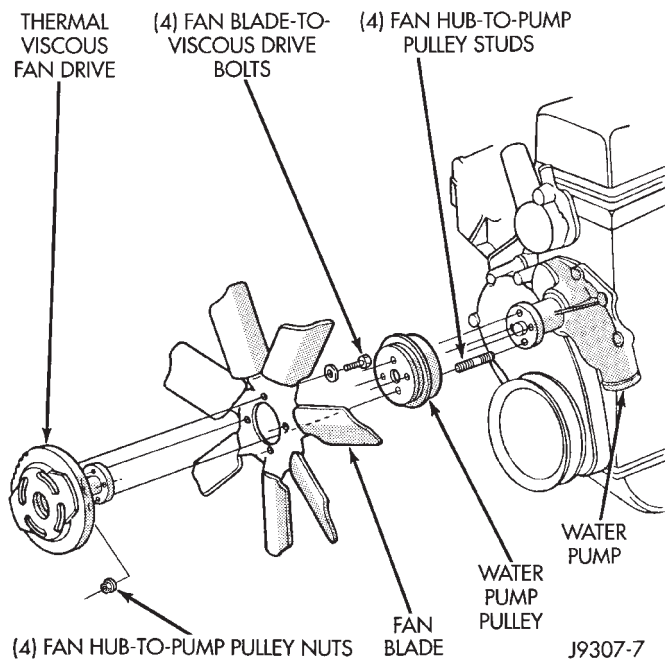
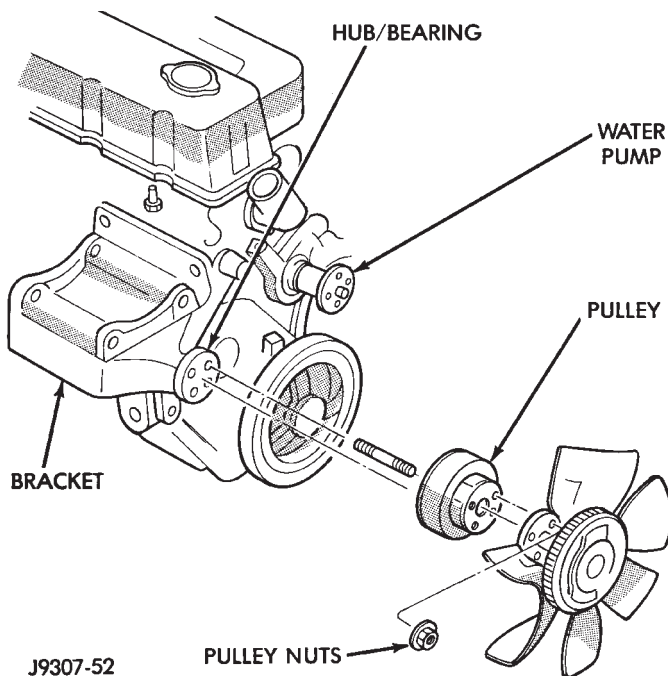

Fig. 38 Water Pump Mounted Cooling Fan
Fig. 39 Bracket Mounted Cooling Fan
Some engines have the mechanical fan/viscous fan drive assembly mounted directly to the water pump hub (Fig. 38). It may also be mounted to a hub/bearing attached to an aluminum bracket on the right front side of engine (Fig. 39).
(1) Loosen but do not remove at this time, the four fan hub mounting nuts (Figs. 38 or 39).
(2) Remove accessory serpentine drive belt. Refer to Belt Service in the Engine Accessory Drive Belt section of this group.
(3) Some models with certain engines may require the removal of the fan shroud to remove the viscous fan drive. The fan shroud and fan blade/viscous fan drive should be removed from the vehicle as one assembly.
(4) Remove four fan hub mounting nuts (Figs. 38 or 39) and remove fan/viscous fan drive assembly from vehicle.